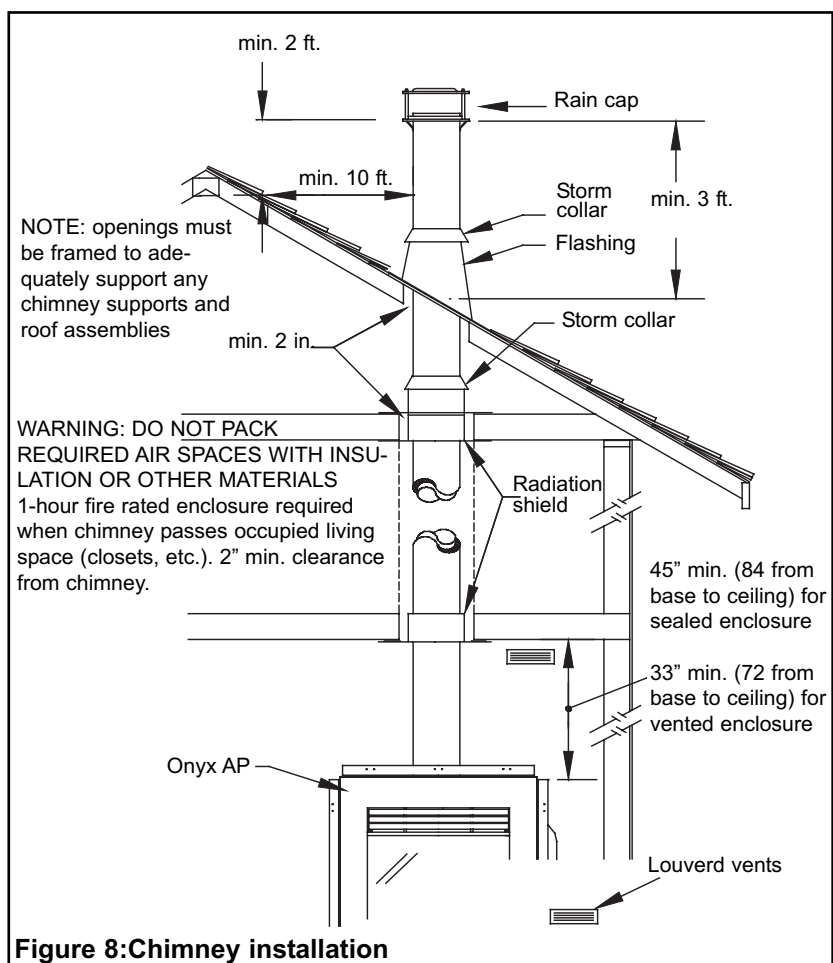

Figure 8:Chimney installation
2. From below, install a radiation shield in each floor through which the chimney passes. At the attic level, install a radiation shield plus a storm collar (if required) as shown in (Figure 8).